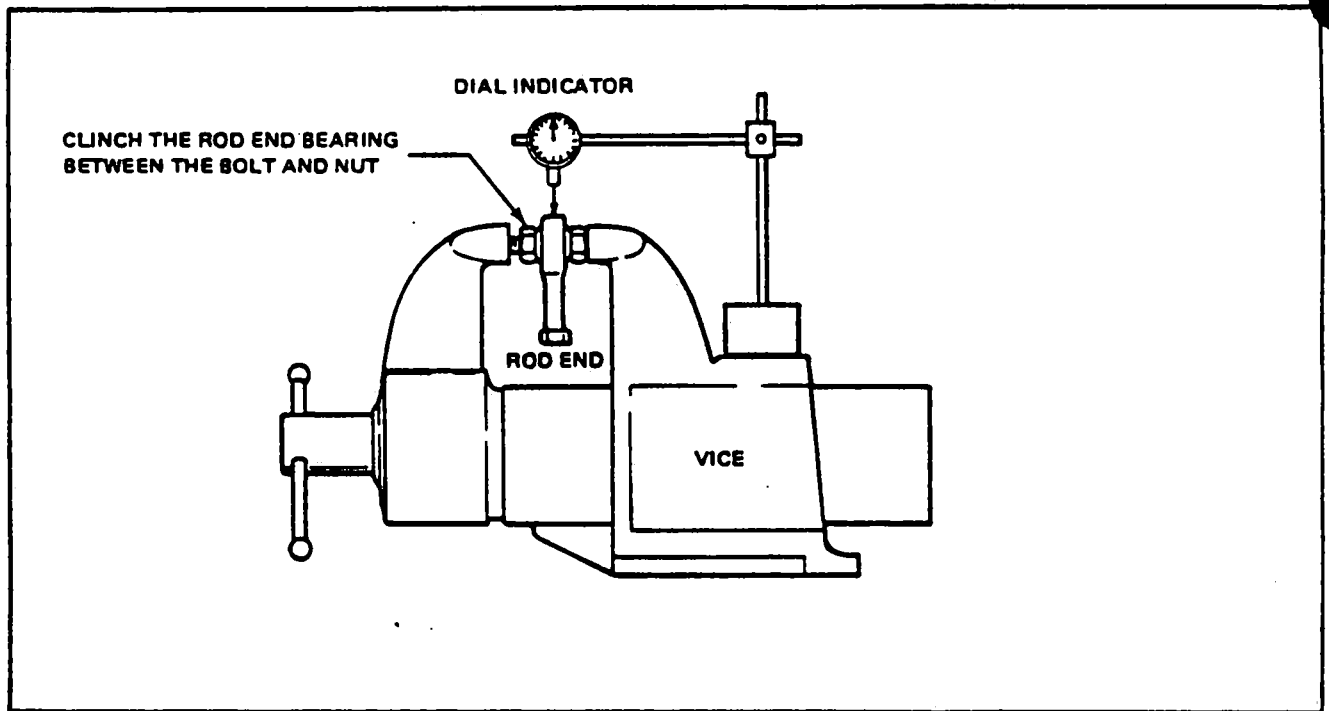

Figure 7-30. Inspection of Rod End Bearings
- d. Inspect rod end bearings for wear by clinching the bearing between a bolt and nut arrangement as shown in Figure 7-30, and using a dial indicator measure the total free play between the ball and race, the maximum service limit is .005 of an inch.